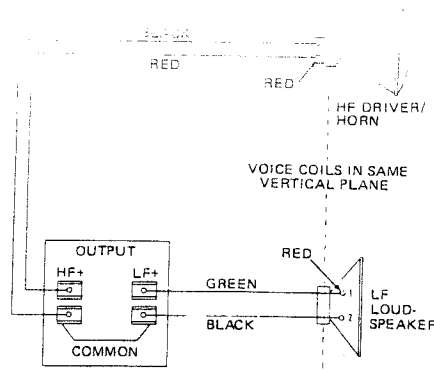
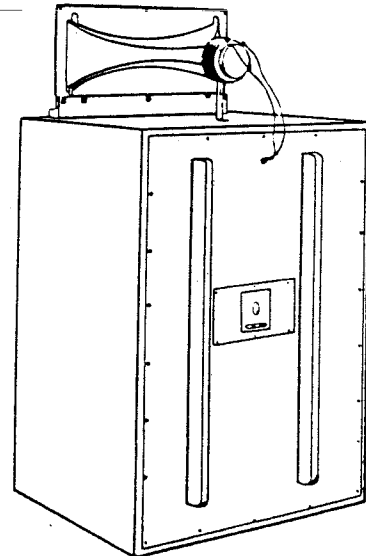

Figure 7. System Interconnect Diagram
Figure 8. Externally Mounted HF Horn System, Rear View
10. Using wire leads supplied with network, interconnect components as shown in Figure 7. Leads to HF driver may be taken through 1/2" diameter wire hole in rear panel (see Figure 8).
11. Replace rear panel and secure to cabinet with sixteen No. 8 x 1 1/4" flat-head wood screws. Figure 8 shows panel (with network) installed.